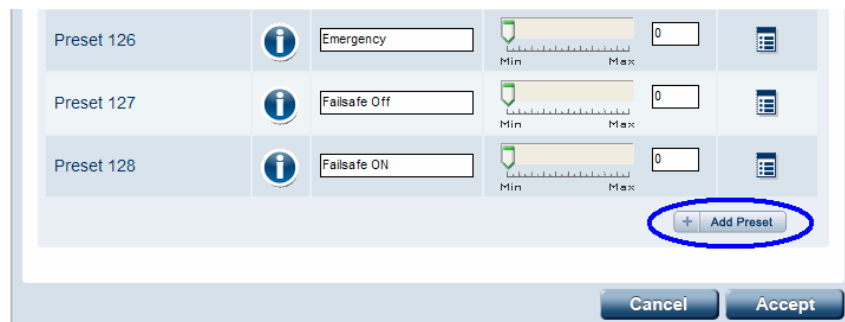

FIG. 34 New Preset button
- Scroll to the bottom of the *Device Configuration* page and click the **Add Preset** button (FIG. 34).